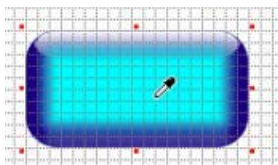

FIG. 358 Grab Properties tool
1. Select **Grab Properties Tool** from the Edit menu, the Design View context menu, or click the toolbar button to activate the Grab Properties tool. Note that the cursor changes to reflect this tool selection (FIG. 358):